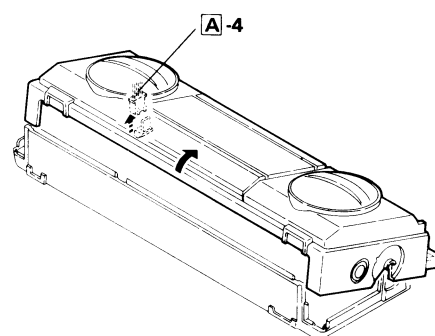

Figure 3-2
4. Raise up the handle as shown in Figure 3-2, and pull out the front cabinet by holding its both sides. At the time, disconnect the speaker socket from the audio P.W.B.